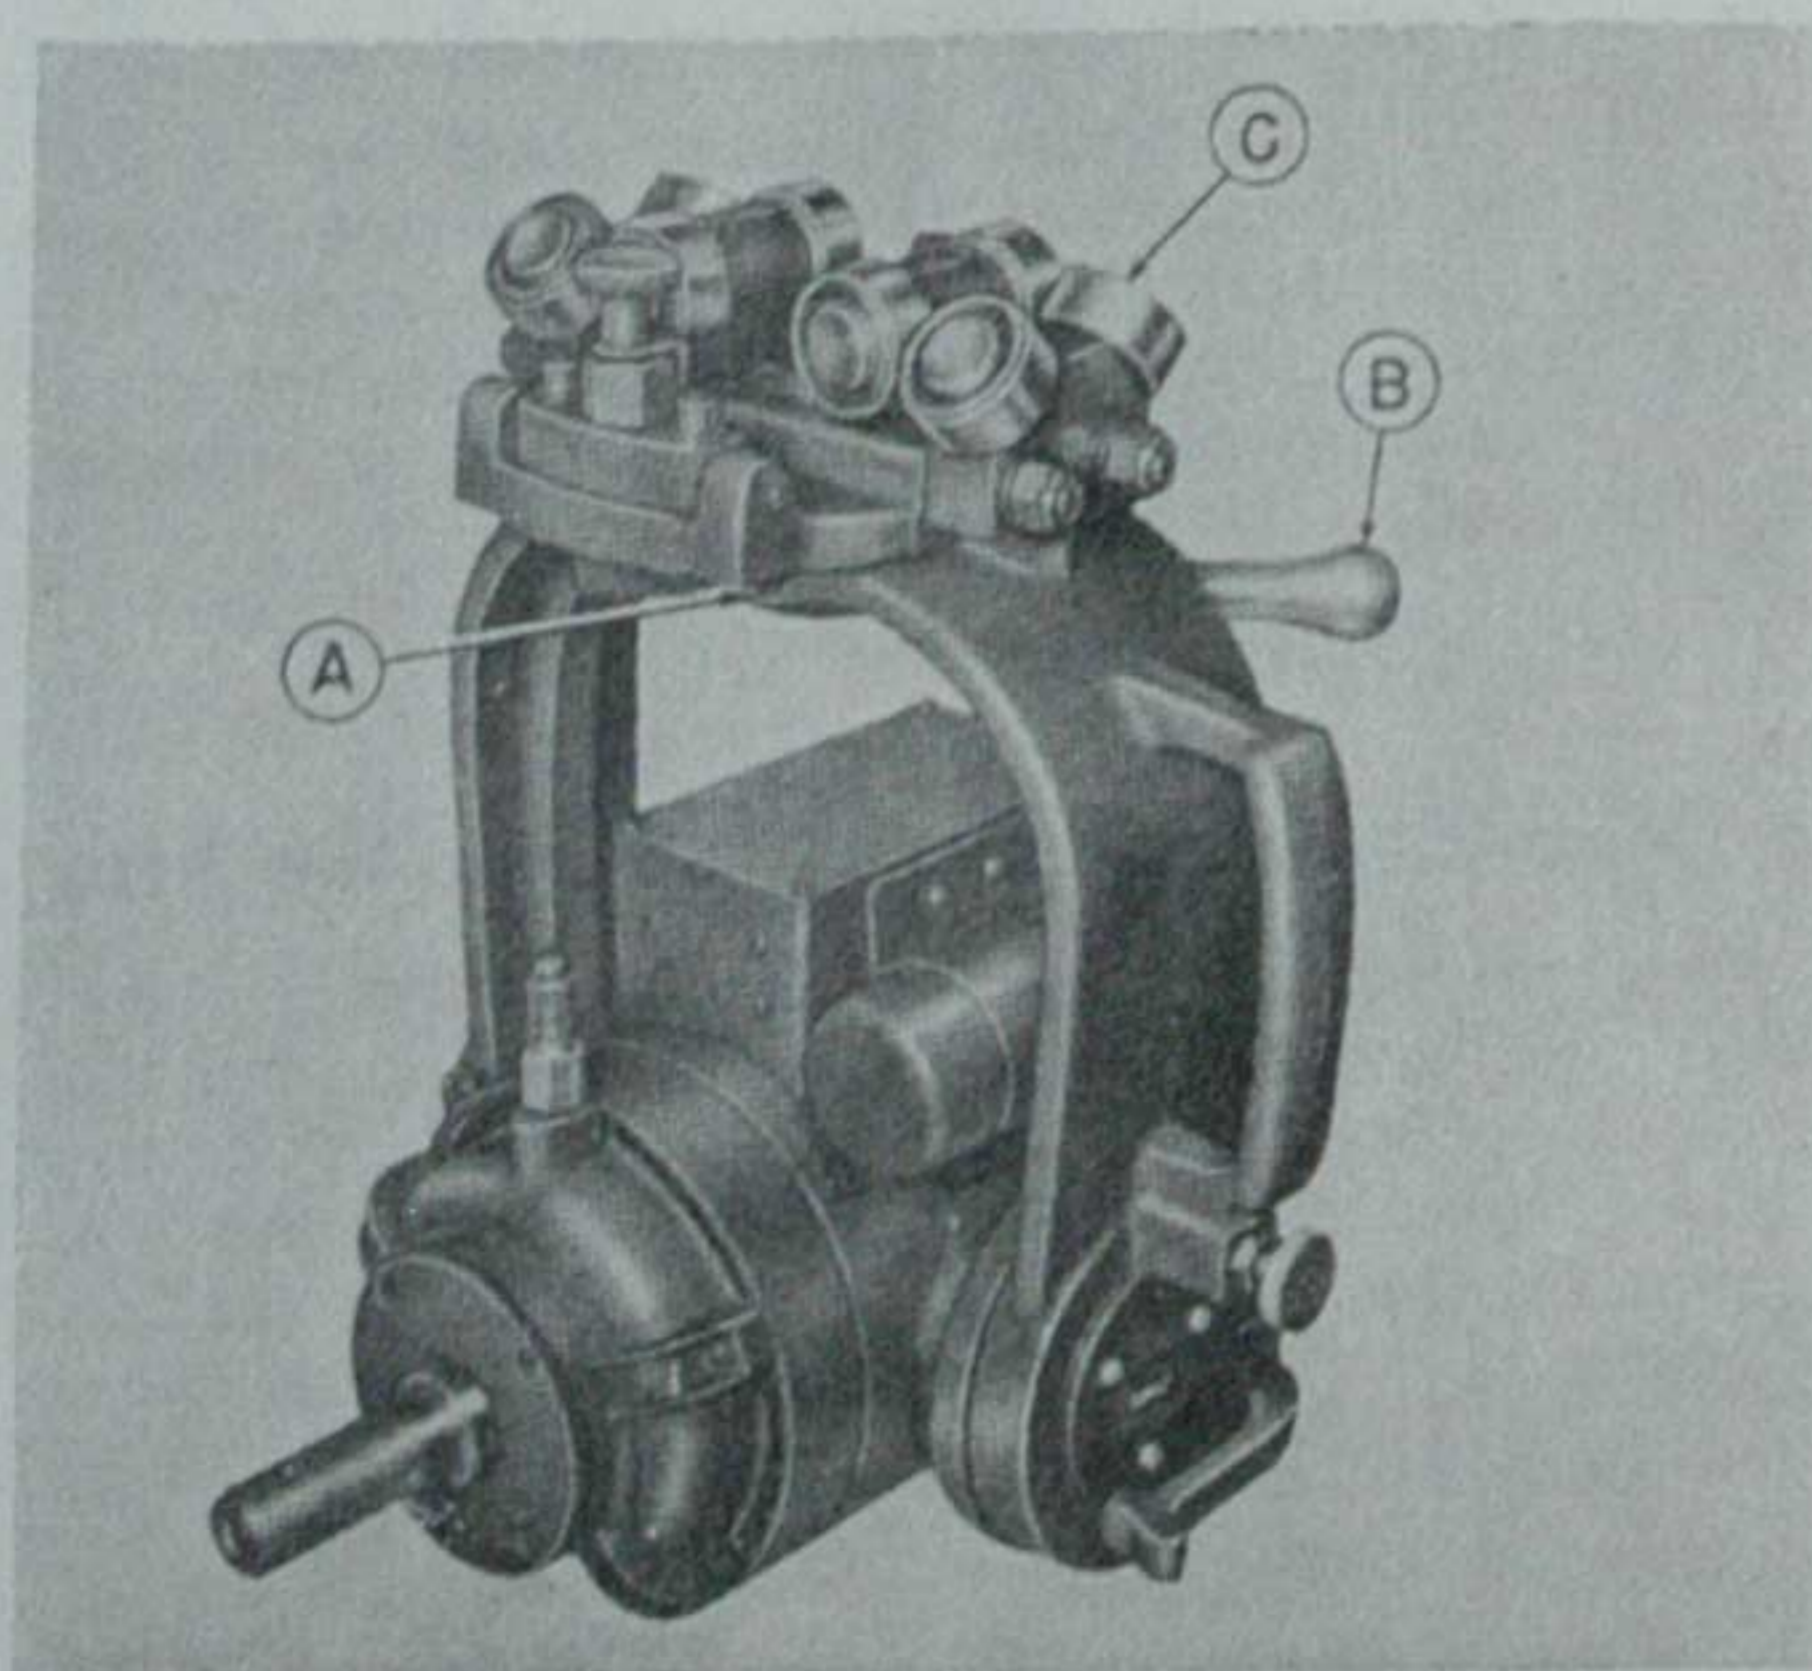

FIGURE 10
1. Release the set screw (A, figures 10 or 14).